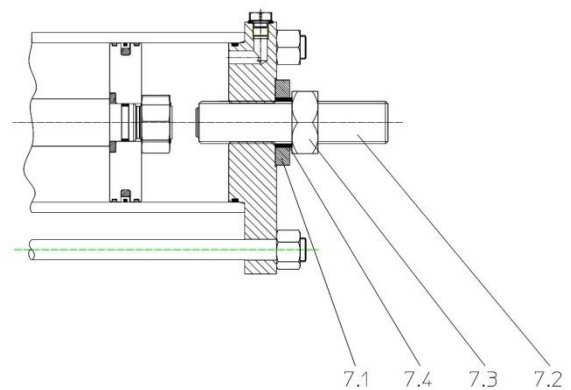

Fig. 7 – Stroke adjustment detail
7.2.2.1 Setting of the stopper on the cylinder side (Fig. 7)